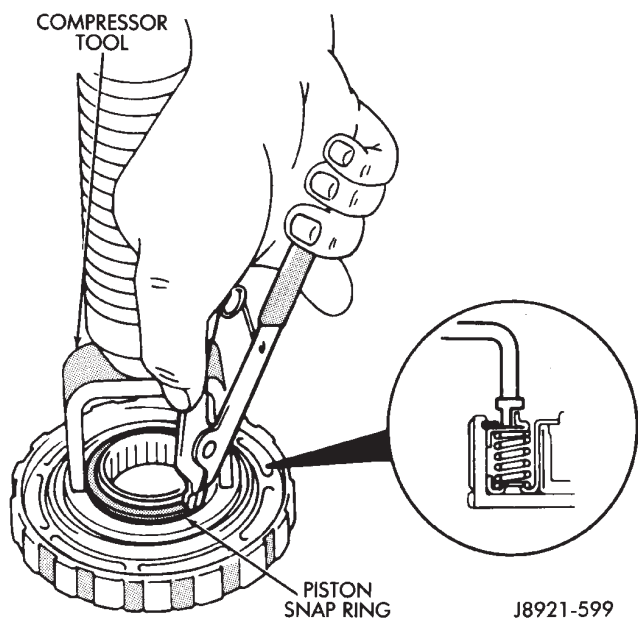

Fig. 4 Removing/Installing Second Brake Piston Snap Ring
(4) Compress piston return springs with shop press and tool 7538. Then remove piston snap ring (Fig. 4).
(5) Remove compressor tool and remove spring retainer and return springs.